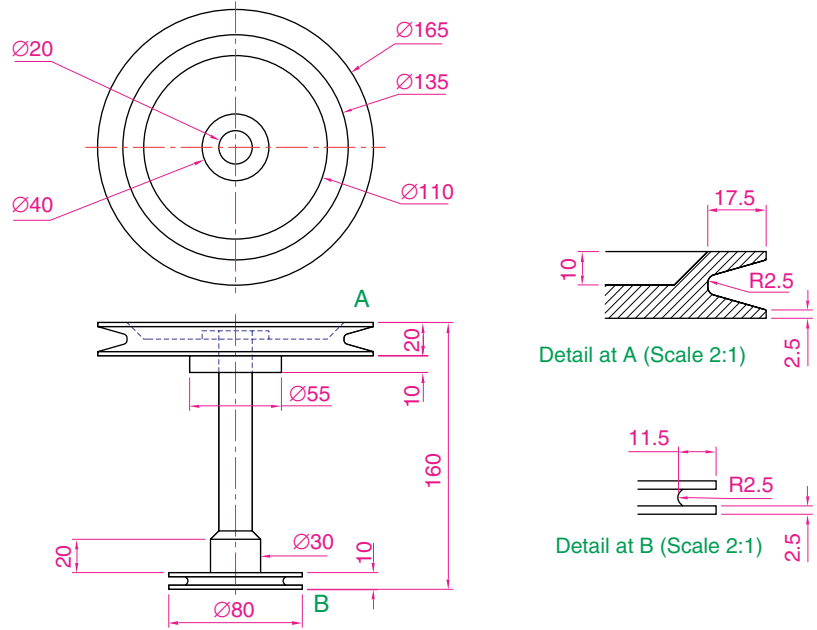

Fig. 13.50 Exercise 8
8. Working to the details given in the orthographic projection in Fig. 13.50, construct a 3D model of the assembly.